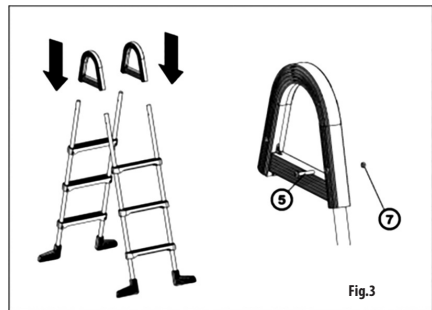

Fig.3
Slide the assembled ladders into the arcs (2) (**Fig. 3**) and secure them with appropriate screws (5) taking care of their proper orientation (screw heads shall face outwards of the treads).